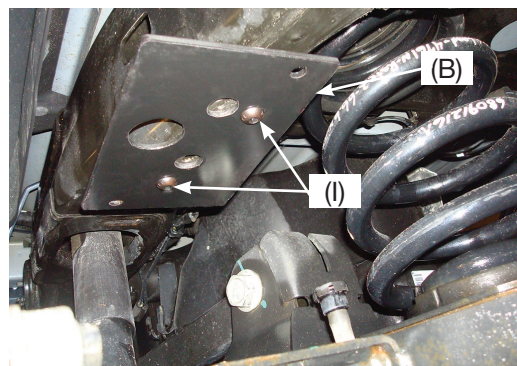

fig. 8
- Attach the upper frame bracket (B) to the frame (Figs. 8 & 9) using the M10-1.50 x 35 button-head cap screws (I). Torque the mounting hardware to 30 lb.-ft. (41Nm).